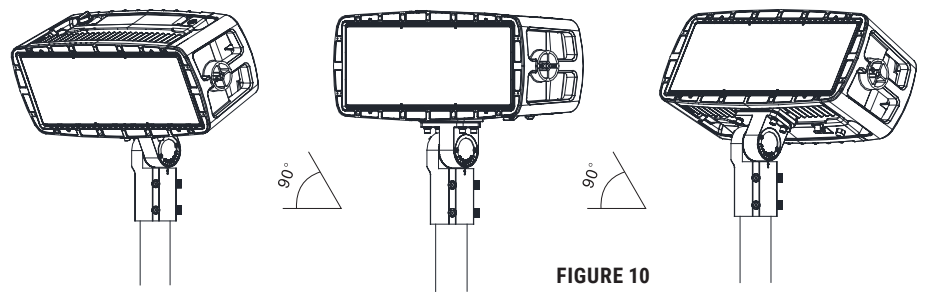

FIGURE 10
3. Use an open-end wrench and hex wrench to loosen the adjusting screw for adjusting the angle (Figure 10) Notice: Adjustable angle is 0-90°.